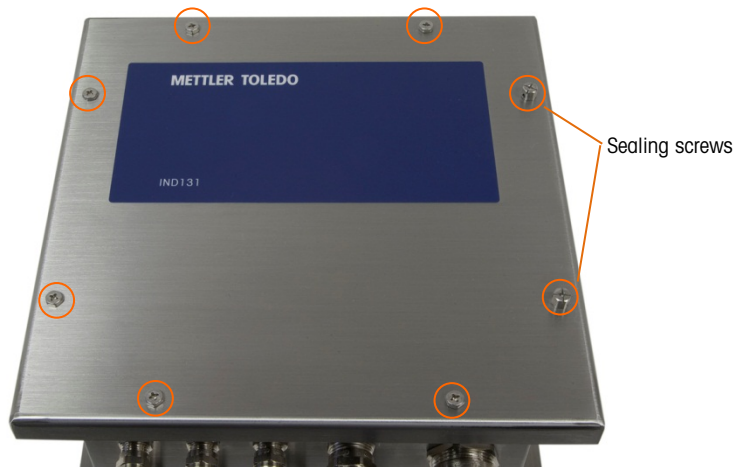

Figure 2-3: J-Box Enclosure, Updated
The front cover of the updated J-Box enclosure is secured with the eight (8) screws indicated in Figure 2-3. All eight screws must be removed to open the enclosure. Note the location, at right, of the two screws used to seal the enclosure.